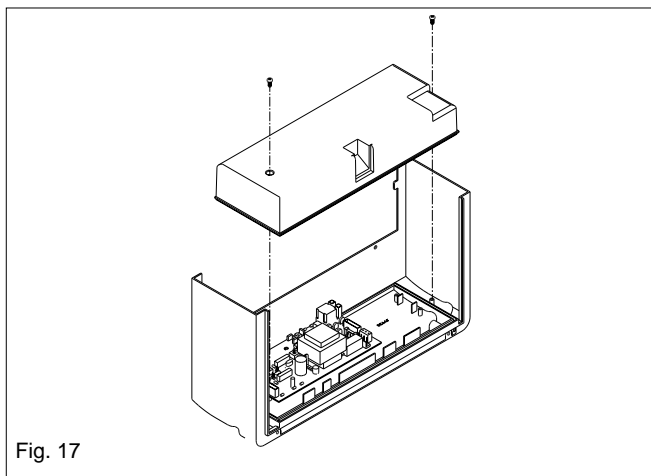

Fig. 17
6.7.1 PRINTED CIRCUIT BOARD (PCB) (see fig. 17)
7.3 CHECKING AND ADJUSTING BURNER PRESSURE (see fig. 17)